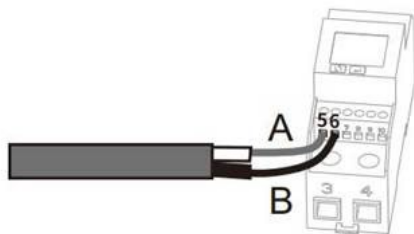

Fig. 32. Connection to SDM 230
8. Fit wire sleeve to the other end of the cable and connect to the contacts of the Smart-Meter. Screwdriver type: PH0, tightening torque: 0.7 Nm See Fig. 32